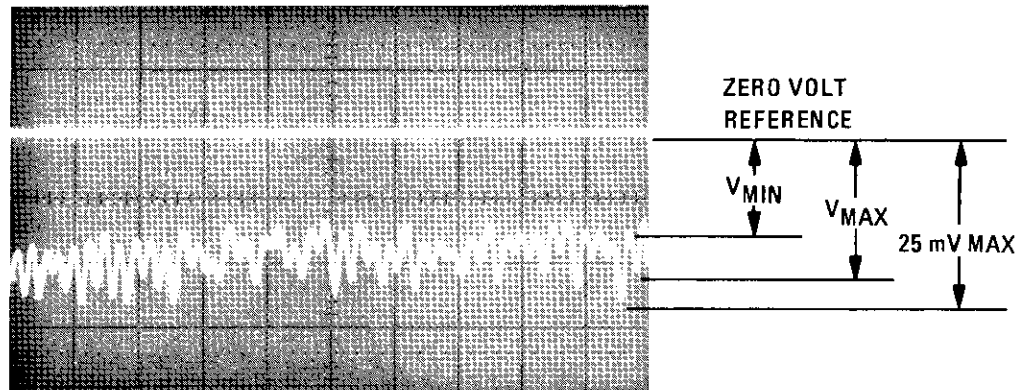
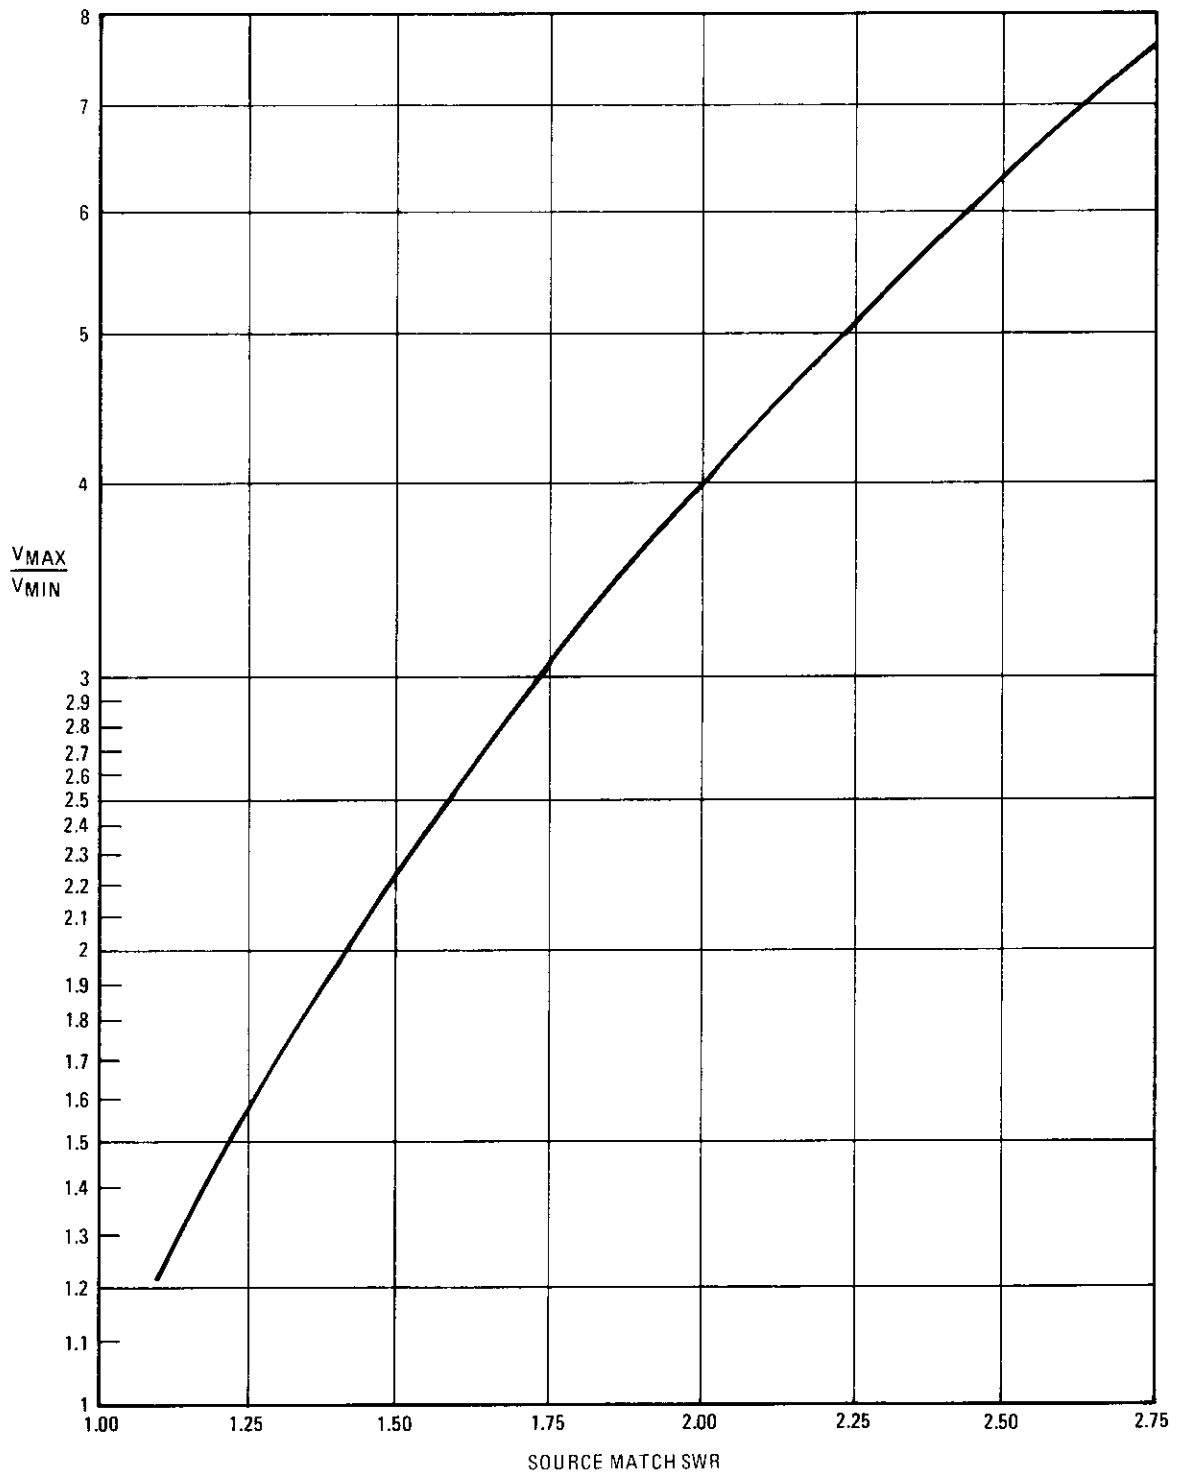

Figure 4-13. Typical Pattern of a Swept SWR Measurement
Figure 4-14. Graph for Converting Oscilloscope Trace to Source Match SWR
- c. Display swept power output trace on oscilloscope (Figure 4-13). Select largest V_{MAX}/V_{MIN} ratio on oscilloscope display and convert it to source SWR, using Figure 4-14. The SWR should be <1.9.